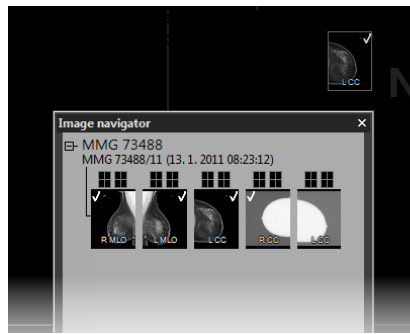

Figure 442 – Dragging an image from the study preview to the screen
- Use the drag-and-drop technique to drag the image from the study overview to the view in the mammography workspace on the left or right monitor (see Figure 442).